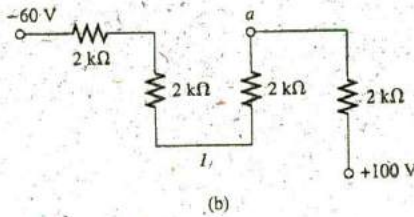

FIG. 5.119
36. a. Determine the current I (with direction) and the voltage V (with polarity) for the networks in Fig. 5.119.